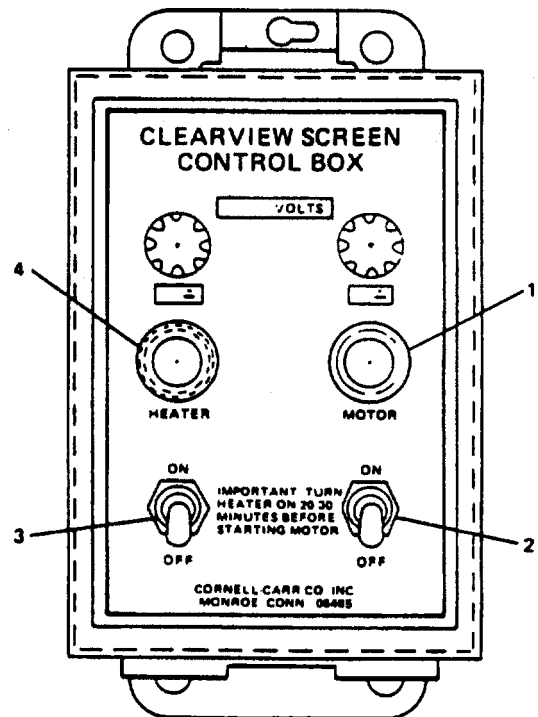

Figure 2-285. Clearview Screen Control Box.
(2) Clearview screen control box (Figure 2-285).
(1) Clearview screen control box (Figure 2-285).